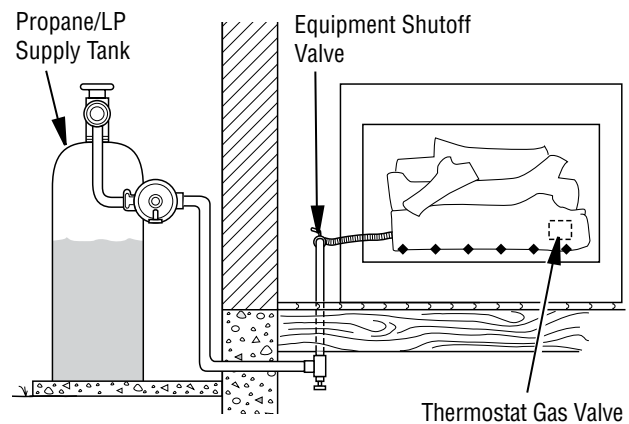

Figure 15 - Checking Gas Joints (Propane/LP Gas Models)
3. Check all joints from gas meter to equipment shutoff valve for natural gas or propane/LP supply to equipment shutoff valve for propane/LP (see *Figures 15 and 16*). Apply noncorrosive leak detection fluid to all joints. Bubbles forming show a leak.
1. Open equipment shutoff valve (see **Figure 15**).
4. Check all joints from equipment shutoff valve to thermostat gas valve (see **Figures 15 and 16**). Apply noncorrosive leak detection fluid to all joints. Bubbles forming show a leak.